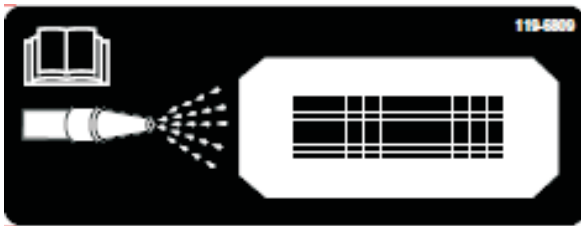
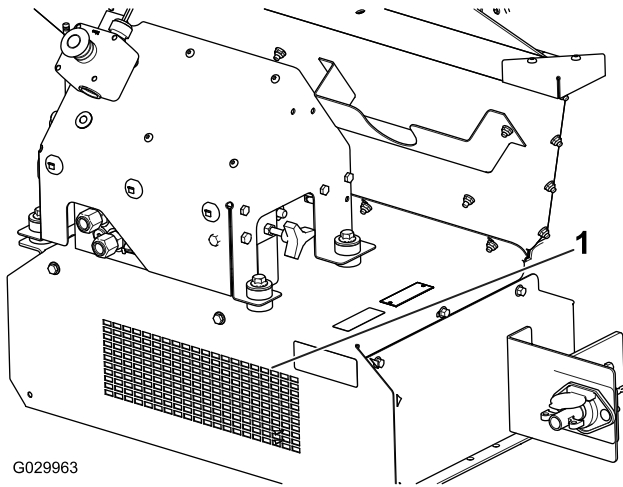

Figure 57
Figure 58
10. Locate the clean out decal on the front of the machine (Figure 57), using a garden hose, spray through the front guard mesh until the belly pan is completely clear of material (Figure 58).